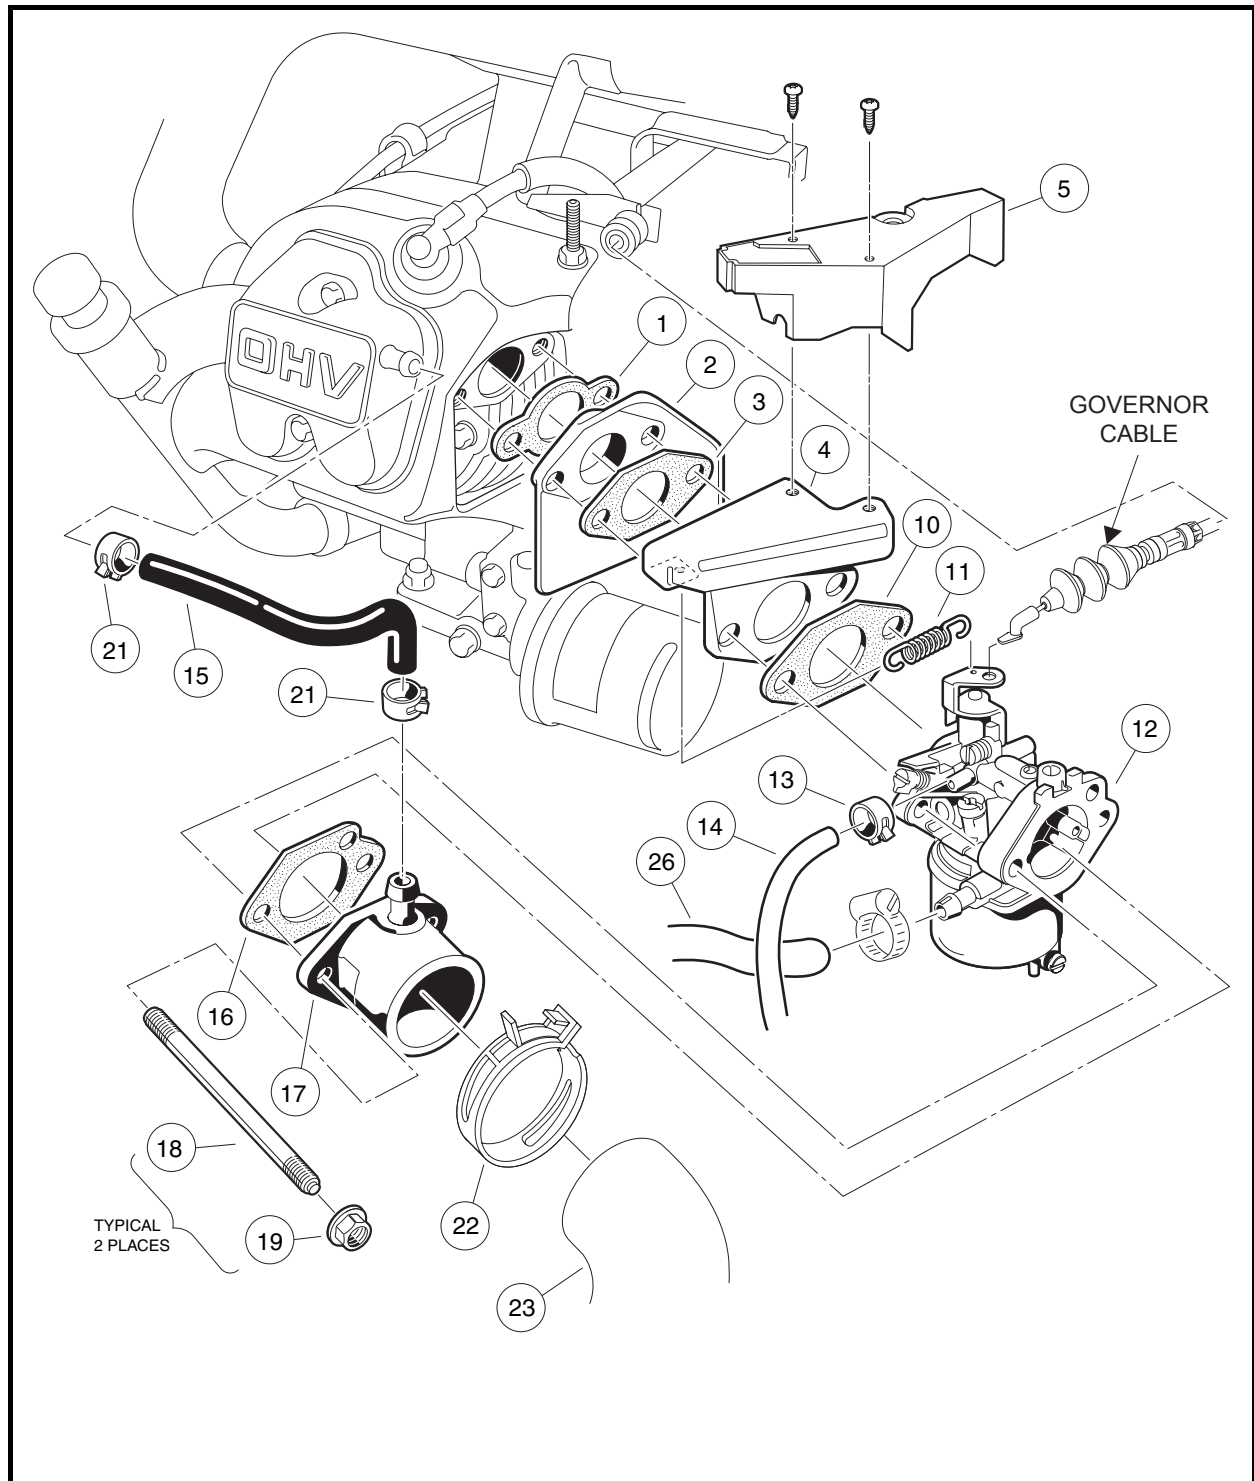

Figure 14-1 Carburetor Installation
- 1.2. Loosen the intake air hose clamp (22) and disconnect the intake air hose (23) at the carburetor end only (**Figure 14-1, Page 14-3**).
- 1.7. Remove the carburetor retaining nuts (19), intake pipe (17), and carburetor (12). **See following NOTE.**
NOTE: Note the orientation of the gasket (16), between the carburetor intake pipe (17) and the carburetor body (12) so that it can be replaced in the same orientation (**Figure 14-1, Page 14-3**).
12. Install the carburetor on the engine (**Figure 14-1, Page 14-3**).
- 12.1. Attach the throttle return spring (11) to the carburetor and then to the throttle bracket (4) just before positioning the carburetor and securing it to the engine (**Figure 14-1, Page 14-3**).
- 12.3. Install the carburetor retaining nuts (19) and tighten them to 50 in-lb (5.7 N·m).
13. Connect fuel supply line (26) and tighten screw clamp to 9 in-lb (1.0 N·m) (if equipped) (**Figure 14-1, Page 14-3**).
14. Install carburetor vent line (14) and clamp (13).
16. Install the governor guard (5), flat washer and nylon lock nut. Tighten to 30 in-lb (3.4 N·m).
17. Install the intake hose (23) and secure with hose clamp.
3. Remove the governor guard (5) (**Figure 14-1, Page 14-3**).